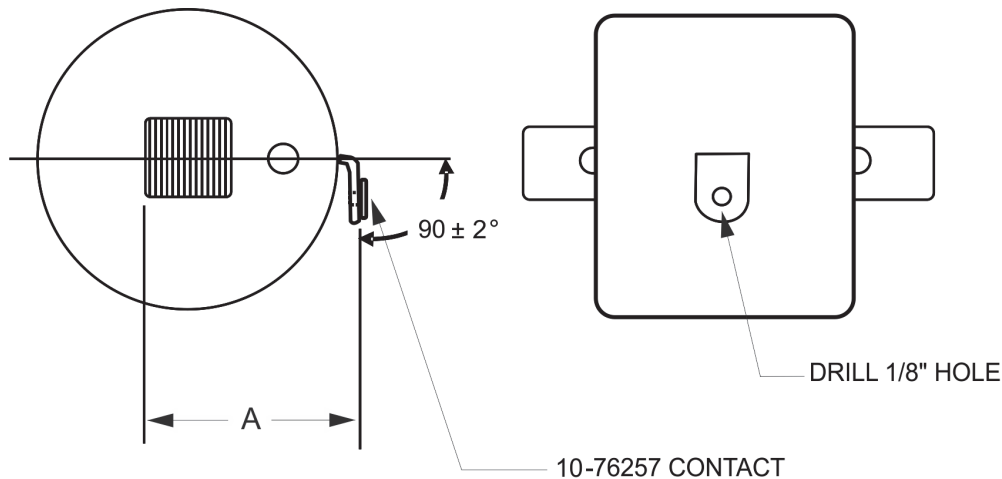

Figure 8-4. Coil Pad Repair
1. Place a piece of phenolic or metal between the terminal pad and the coil (36) to prevent damage to the coil. Drill a 1/8 inch diameter hole (Figure 8-4) through the center of the high tension terminal pad.
4. After the terminal has cooled, inspect the installed contact. The terminal angle should be $90 \pm 2^\circ$ off the horizontal axis of the coil core and the distance from the coil core to the outside of the 10-76257 contact must be 1.678 - 1.728 inches as illustrated in Figure 8-4.